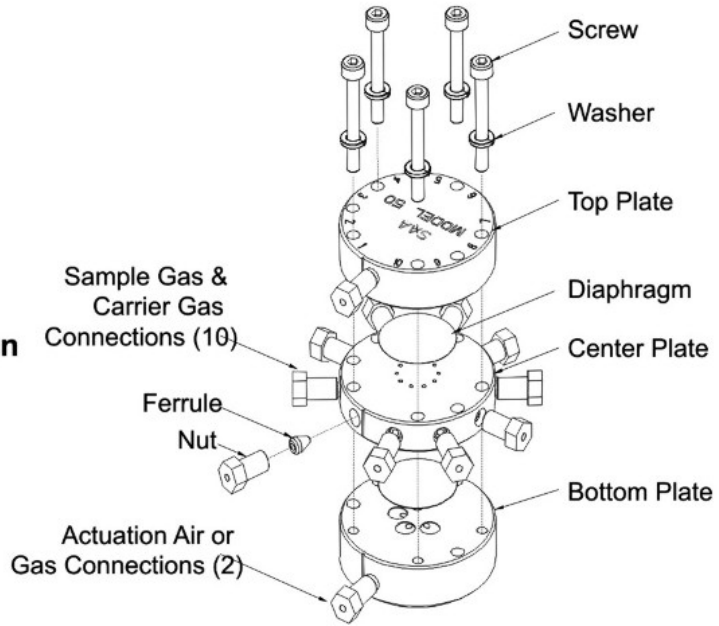

Figure 4-26: Exploded View of Model 50 Valve
### Valve Removal and Disassembly (see Figure 4-26)
5.	Remove the valve from the oven by unscrewing the two M3 x 35 socket head cap screws securing the Model 50 Valve. These mounting screws are located between ports 2 and 3 and ports 8 and 9. Refer to Figure 4-26 for port locations.
7.	Place the valve bottom plate on a lint free cloth. Using a 2.5 mm Allen wrench, remove the five component socket head fastening cap screws. Refer to Figure 4-26.